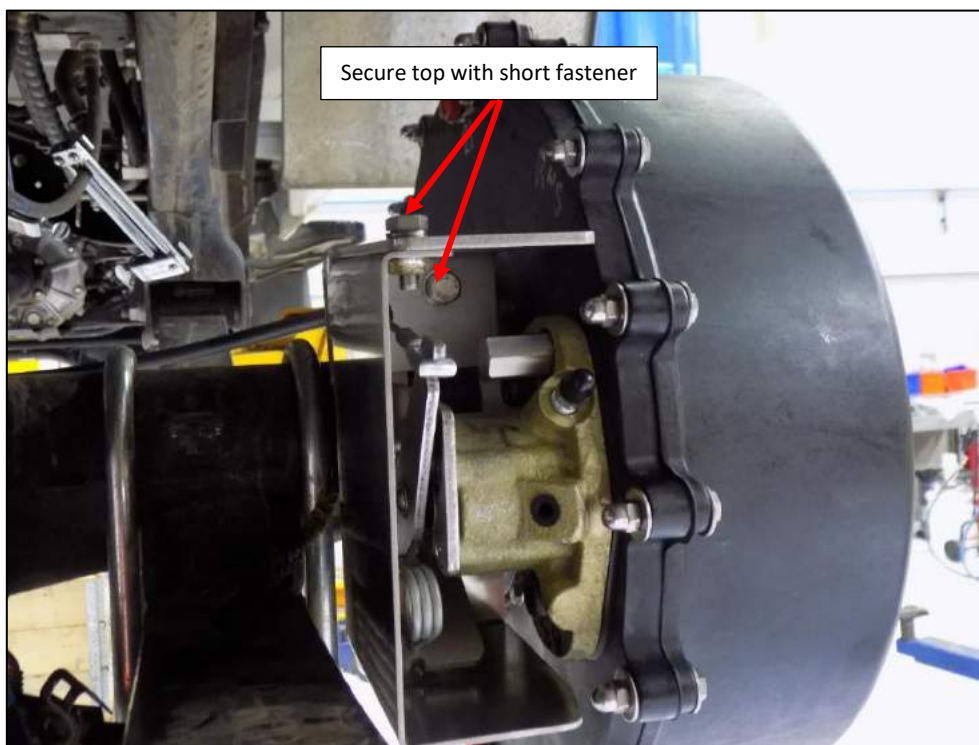

Figure 34
22. Attach the park-brake shroud and install the two (short) mounting fasteners (Figure 34).